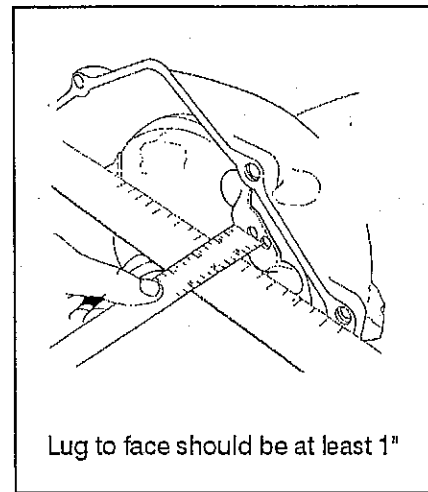

Figure 9
STEP 22. Install the B&M torque converter onto the transmission. Push the converter in while rotating it to engage the input shaft, reaction shaft and pump drive tangs. Place a straight edge across the bellhousing face and measure the distance to the torque converter's drive lug face. The drive lug must be at least 1" **inside the bellhousing**, see (Fig. 9). A measurement of less than 1" indicates the torque converter is not fully engaged in the transmission. Continue to push in and rotate the converter until you obtain full engagement.